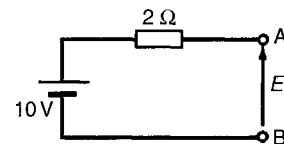

Figure 13.29
- (i) The open-circuit voltage, E , across terminals AB in Fig. 13.29 is equal to 10 V, since no current flows through the 2 Ω resistor and hence no voltage drop occurs.